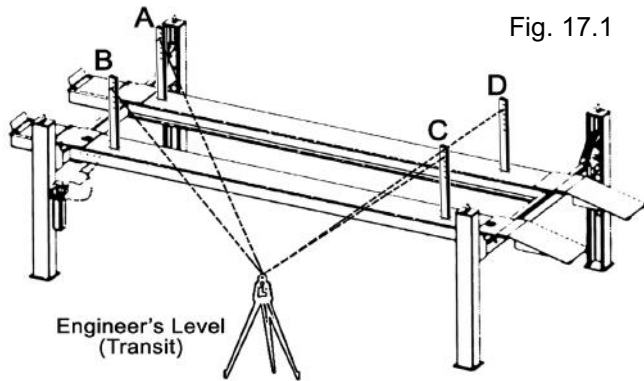

Fig. 17.1
5. Beginning with "A" position, sight the level to the target and mark the number or the graduation on the inch scale of the target that aligns to the cross hairs of the Level, (See Fig.17.1)
6. Next, move the target and place it at point "B" on the runway. (See Fig. 17.1)
8. Adjust the adjustment nut on the safety ladder bar at the top of the column at "B" until the crosshairs of the Level align to reference mark on the target scale. (See Fig. 17.1)
9. Repeat steps locating the target assembly at points "C" and "D" and adjusting safety ladders at each corresponding column until the reference mark on the target scale is on the crosshairs of the Level. The runways are now level at all four points. (See Fig. 17.1)